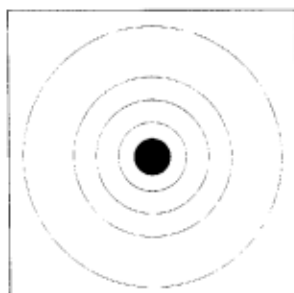
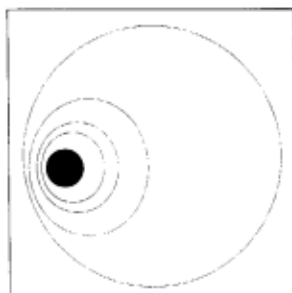

Fig. 18A.
Fig. 18B.
- Bring the star image slowly out of focus until one or more rings are visible around the central disc. If the collimation was performed correctly, the central star disk and rings will be concentric circles, with a dark spot dead center within the out-of-focus star disk (this is the shadow of the secondary mirror), as shown in Fig. 18A. (An improperly aligned telescope will reveal elongated circles, Fig. 18B, with an off-center dark shadow.)
- If the out-of-focus star disk appears elongated (Fig. 18B), you will need to adjust the primary mirror tilt hex screws of the primary mirror cell. Adjust the hex screw on the mirror cell until the circles are concentric on either side of focus.